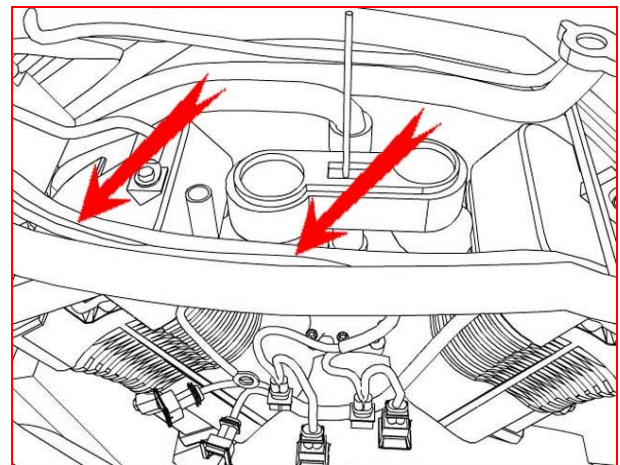

Figure 11
12. Continue pulling TFI harness through, routing it on top of main (plastic braid covered) harness. Route connectors inside the frame, down through the engine V and out where stock injector harness is. (fig 11)